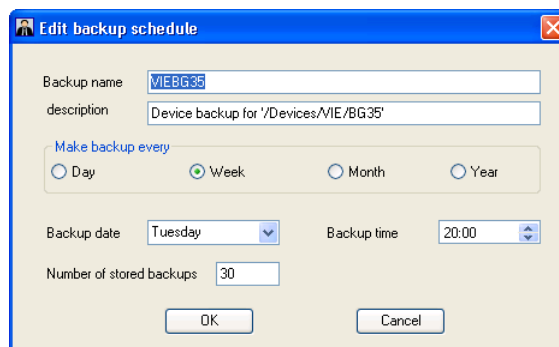

Figure 219: Edit Backup Schedule
3. Configure the name in the **Edit backup schedule** dialog (see Figure 219) and select when the backup will be executed.
3. Change the schedule settings in the **Edit backup schedule** dialog (see Figure 219)